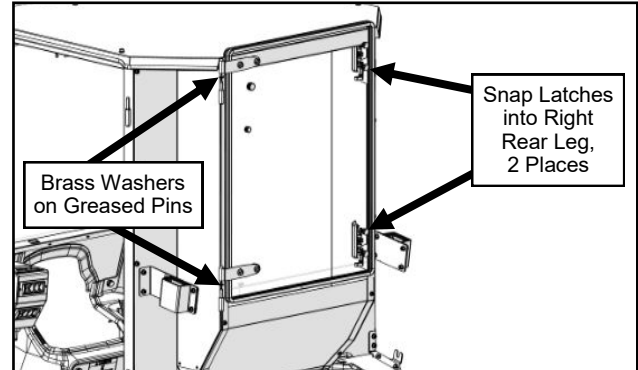

Fig. 15.1 (Hang Rear Window)
- 15.1** Grease the hinge pins found on the left side rear leg and slide on greased brass washers (one washer per pin). See Figure 15.1.